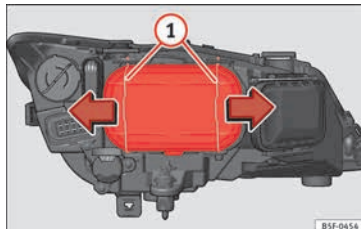

Fig. 103 Dipped beam headlights.
- Move the loops » **Fig. 103** ① in the direction of the arrow and remove the cover.